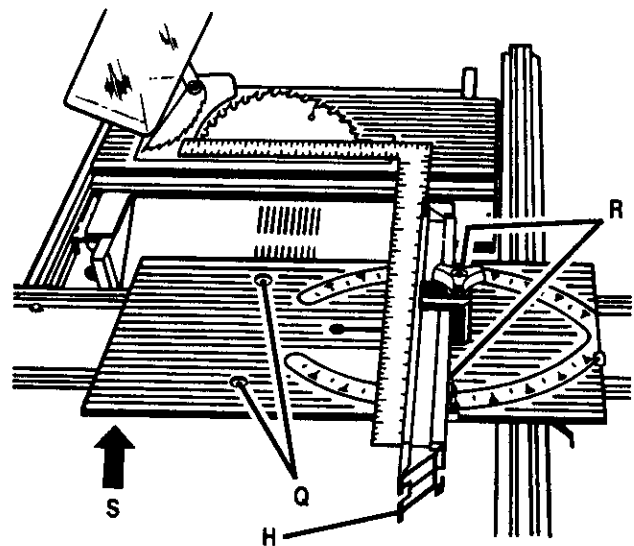

Figure 59
- Push left rear of miter table snugly against miter base as shown by the arrow (S) in figure 59 and secure.